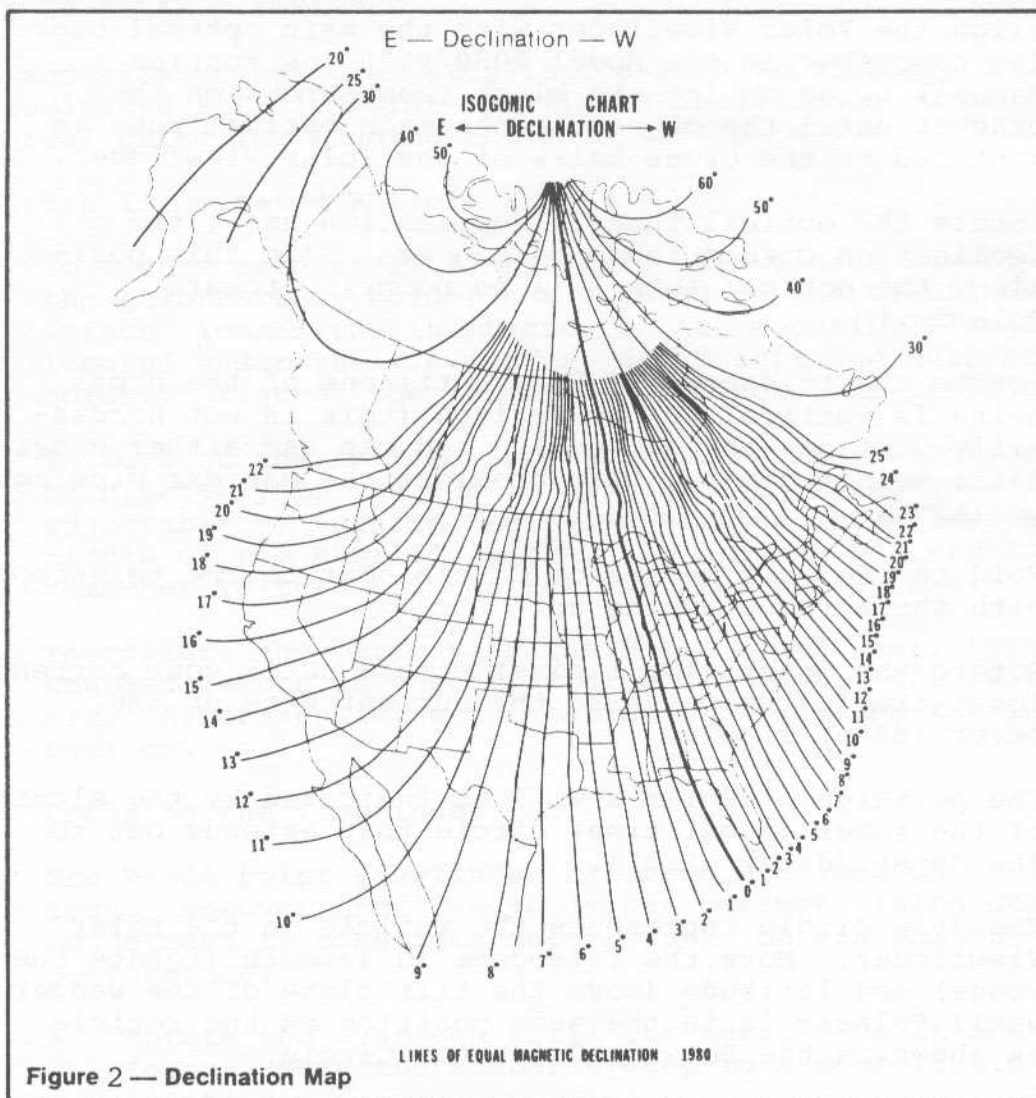

Figure 2 — Declination Map
1. First, determine the Magnetic Declination your area using the Isogonic Chart (Fig. 2).